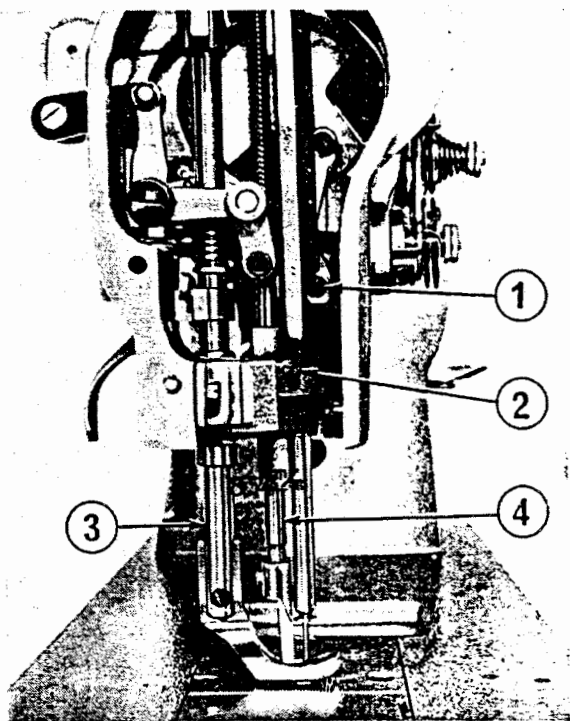

Fig. 17
The correct relative position of the needle bar frame (Fig. 17 ②) with that of the presser bar (Fig. 17 ③) is when, with the stitch length at "0," the clearance between the presser bar and the working foot bar (Fig. 17 ④) comes to 8.54 mm (5/16"). (Fig. 17)
To adjust the height of the needle bar, loosen the needle bar clamping screw (Fig. 17 ①) and move the needle bar up and down. When proper adjustment is made, re-tighten the clamping screw tight.